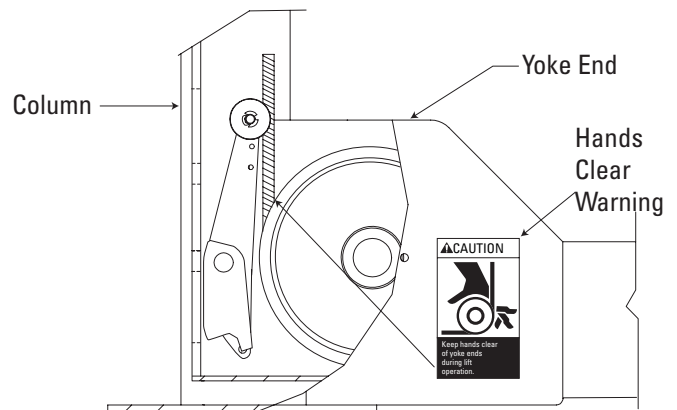

Fig. 3
**⚠️ WARNING** The runways, ramps and connecting yokes at each end of lift are designed to rest on the floor when fully lowered. Observe pinch point warning decals, Fig. 3.
**⚠️ WARNING** Keep hands clear of yoke ends while the lift is being raised or lowered, Fig. 3.